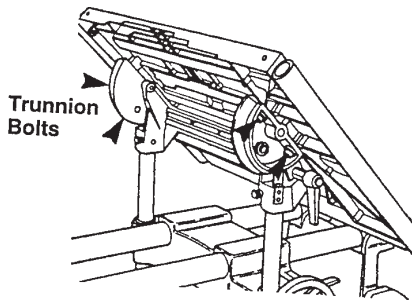
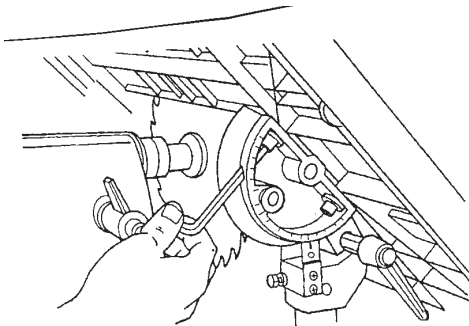

Figure C-44
Figure C-45
- b. Use a 5/16" Allen wrench to loosen all four bolts (147) which hold the worktable to the trunnions, as pointed out in Figure C-44. Loosen the bolts only enough to allow movement with firm pressure. See Figure C-45.